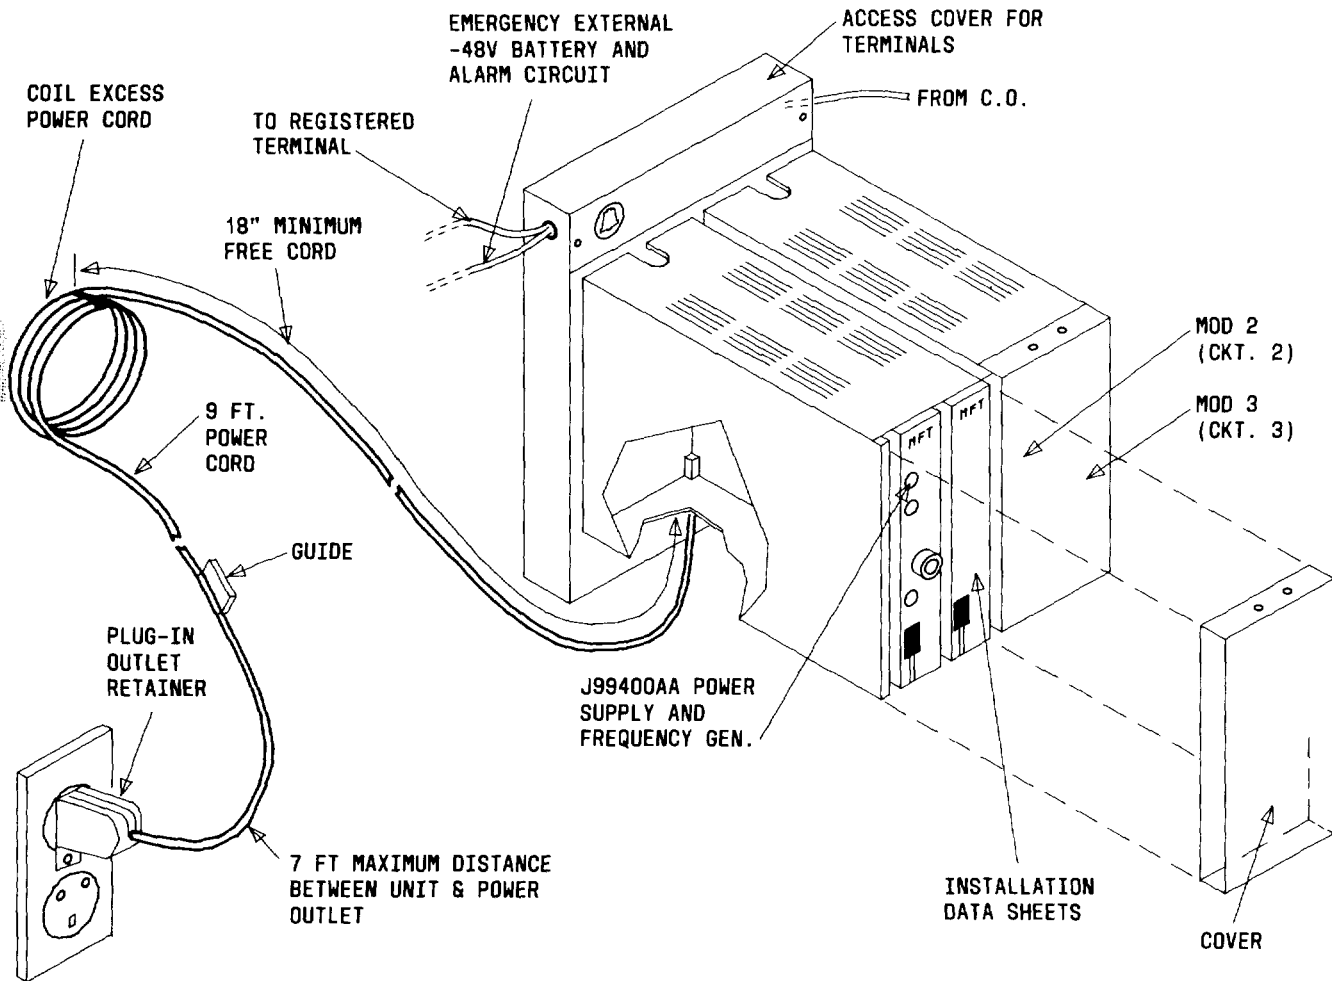

Fig. 1—Typical Layout of J99400A Housing Assembly
| 1.02 When this section is reissued, the reason(s) will be given in this paragraph. | | 2.01 This circuit pack mounting arrangement consists of three basic components which are the J99400A Housing Assembly, the J99400AA Power Supply/Frequency Generator plug-in, and the ED-7C223 Group 1 Installation Data Sheet plug-in. Figure 1 illustrates this complete arrangement. |
| | | 2.02 As illustrated in Fig. 1, the J99400A assembly will accommodate up to two MFT plug-in units in a single-module arrangement. This assembly also |
2.03 This housing consists of three subassemblies which are shown in Fig. 1. These subassemblies are the aluminum mounting backplate and two modified J99380N plug-in housings.
2.05 There are two J99380N housing assemblies mounted on each mounting backplate. As shown in Fig. 1, the left-hand housing contains the J99400AA Power Supply/Frequency Generator and ED-7C223 Group 1 Installation Data Sheets. The right-hand J99380N housing provides mounting slots
2.09 This assembly contains installation instructions for the J99400A assembly and J99400AA power unit. The data sheets are packaged on an MFT circuit pack frame that slides into the appropriate mounting slot as shown in Fig. 1. This assembly consists of an MFT card holder frame and shield with an attached 2-ring loose-leaf binder. The installation information contained on these sheets is also given in Section 332-610-201.